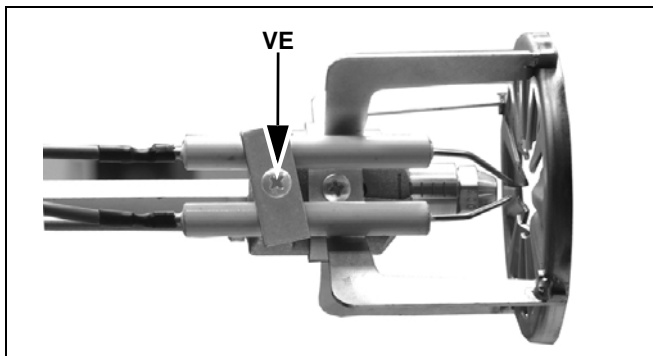
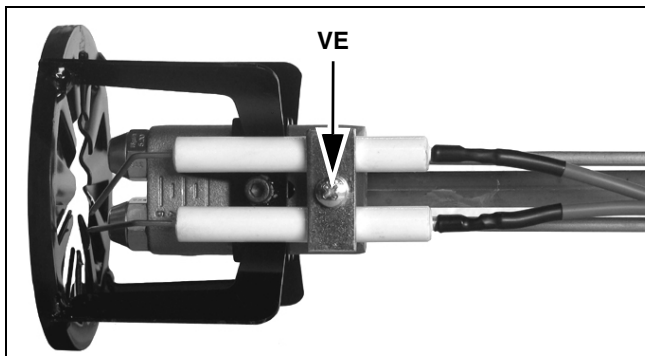

Fig. 29
Fig. 30
- Withdraw the screw VE and remove the electrodes from the support (Fig. 29 - Fig. 30).